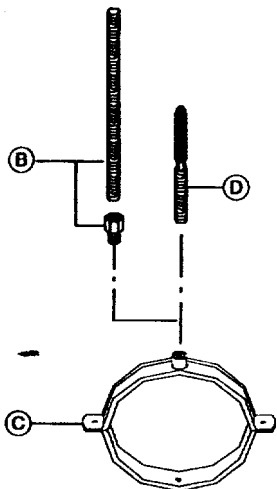

Fig. 11
The venting system must be securely supported by an anchoring system suitable for the weight and design of the materials employed. To do so, use supplied mounting clips (see C Fig. 10, Fig. 11).
If a longer anchoring system is required use brass adaptors M8 x 5/16" (supplied) with 5/16" all-threaded rods (B) (field supplied). See Fig. 11.
See Fig. 11.